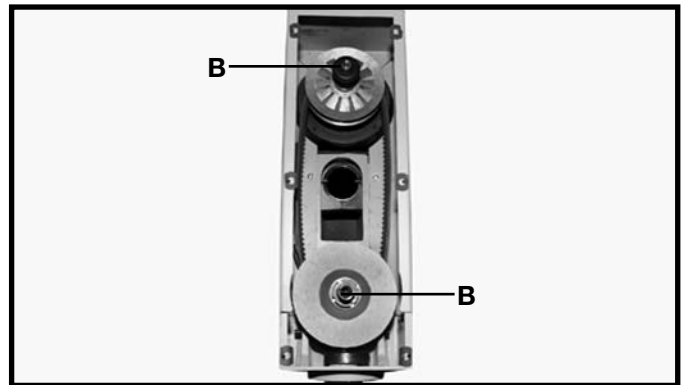

Fig. 31
2. The variable speed pulleys should be oiled weekly with a few drops of light machine oil in the two oil holes (B) Fig. 31, located on top of the variable speed pulleys.